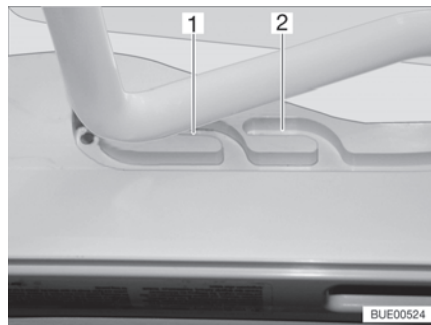
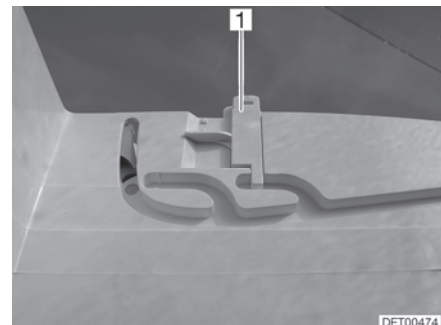

Fig. 21 Guide (ventilation position)
Fig. 22 Lock (ventilation position)
The Heki skylight can be put in two ventilation positions: Bad weather position (Fig. 21,1) and central position (Fig. 21,2). Depending on the model, the skylight can be locked in the central position with both left and right latches (Fig. 22,1) on the skylight frame.
- Push the bar slightly upwards and into the selected guide (Fig. 21,1 or 2) and lock if necessary.